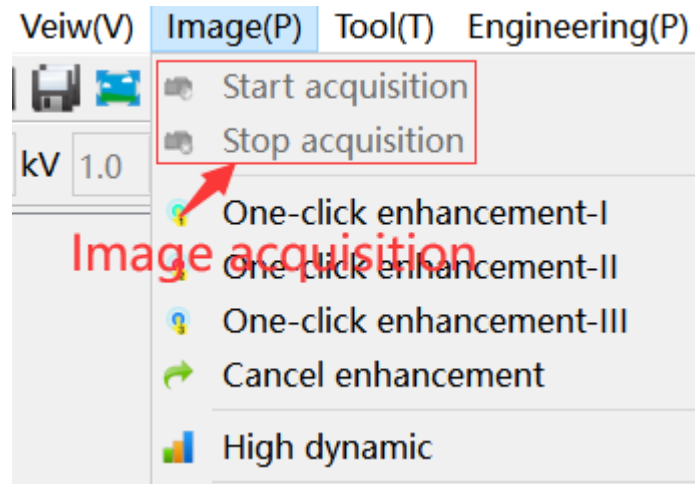

Fig. V-5 Image Acquisition
1) **"Image (P)" -> "Start Acquisition"** in the menu bar. (Fig. V-5).
- 1) Menu bar "Image (P)" -> Stop acquisition. (Fig. V-5).